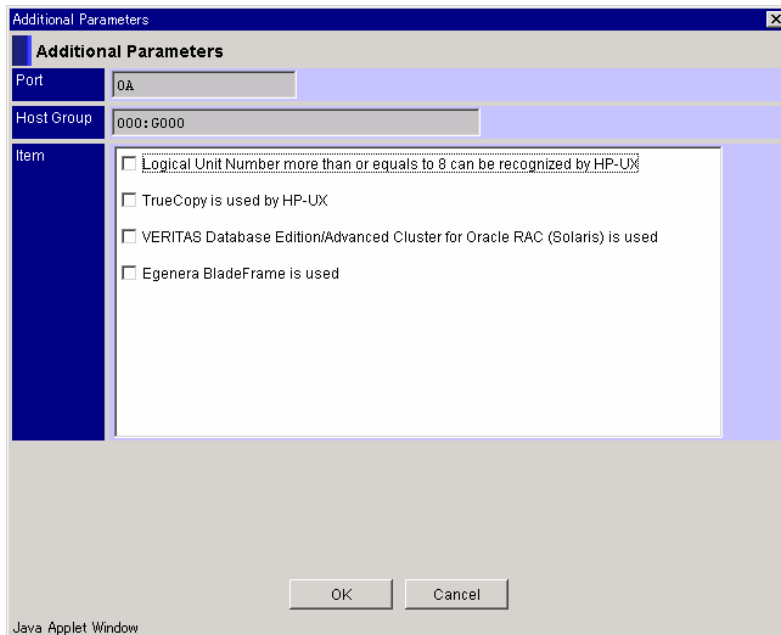

Figure 7.3 Additional Parameters Dialog Box
6. Click **Additional Parameters**. See Figure 7.3.